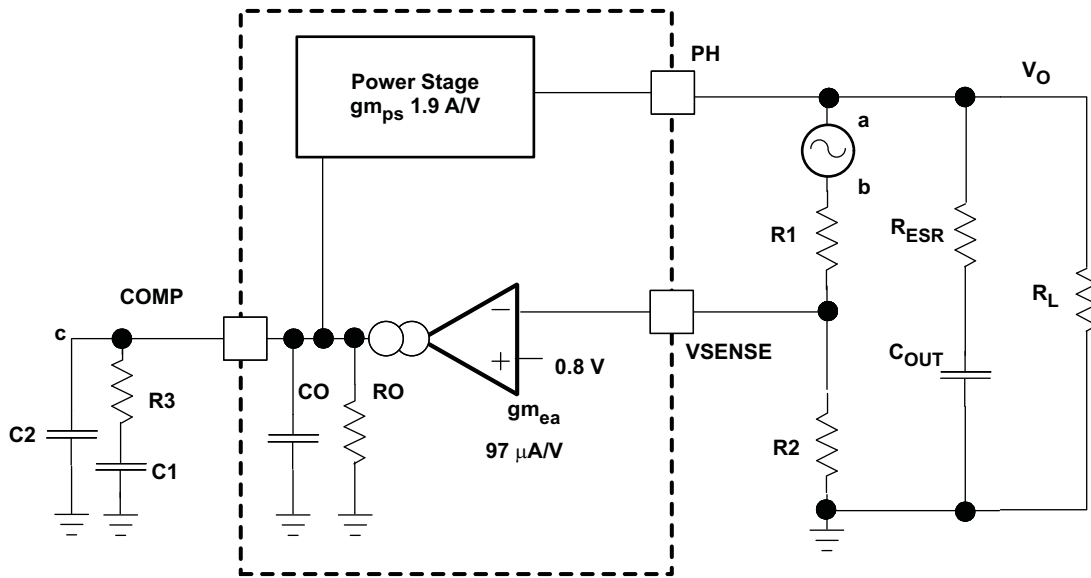
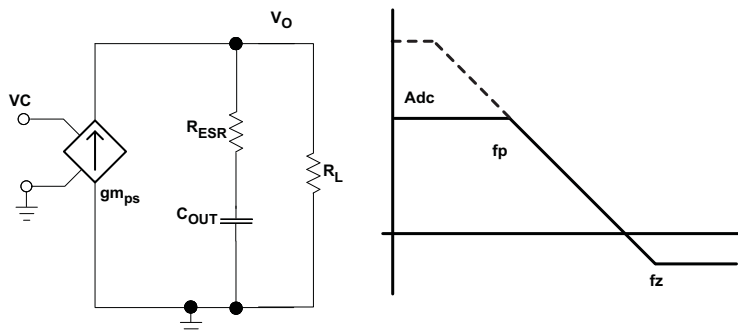

Figure 31. Small Signal Model for Loop Response
Figure 32. Simple Small Signal Model and Frequency Response for Peak Current Mode Control
**Figure 31** shows an equivalent model for the TPS54060 control loop which can be modeled in a circuit simulation program to check frequency response and dynamic load response. The error amplifier is a transconductance amplifier with a  $g_{m_{EA}}$  of 97  $\mu A/V$ . The error amplifier can be modeled using an ideal voltage controlled current source. The resistor  $R_o$  and capacitor  $C_o$  model the open loop gain and frequency response of the amplifier. The 1mV ac voltage source between the nodes a and b effectively breaks the control loop for the frequency response measurements. Plotting c/a shows the small signal response of the frequency compensation. Plotting a/b shows the small signal response of the overall loop. The dynamic loop response can be checked by replacing  $R_L$  with a current source with the appropriate load step amplitude and step rate in a time domain analysis. This equivalent model is only valid for continuous conduction mode designs.
Figure 32 describes a simple small signal model that can be used to understand how to design the frequency compensation. The TPS54060 power stage can be approximated to a voltage-controlled current source (duty cycle modulator) supplying current to the output capacitor and load resistor. The control to output transfer function is shown in Equation 3 and consists of a dc gain, one dominant pole, and one ESR zero. The quotient of the change in switch current and the change in COMP pin voltage (node c in Figure 31) is the power stage transconductance. The  $gm_{ps}$  for the TPS54060 is 1.9A/V. The low-frequency gain of the power stage frequency response is the product of the transconductance and the load resistance as shown in Equation 4.
As the load current increases and decreases, the low-frequency gain decreases and increases, respectively. This variation with the load may seem problematic at first glance, but fortunately the dominant pole moves with the load current (see Equation 5). The combined effect is highlighted by the dashed line in the right half of Figure 32. As the load current decreases, the gain increases and the pole frequency lowers, keeping the 0-dB crossover frequency the same for the varying load conditions which makes it easier to design the frequency compensation. The type of output capacitor chosen determines whether the ESR zero has a profound effect on the frequency compensation design. Using high ESR aluminum electrolytic capacitors may reduce the number frequency compensation components needed to stabilize the overall loop because the phase margin increases from the ESR zero at the lower frequencies (see Equation 6).